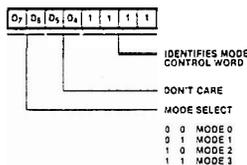

Figure 6. Mode Control Word
**A Mode Control Word.** Selects the port operating mode (Figure 6). This word may be written any time.